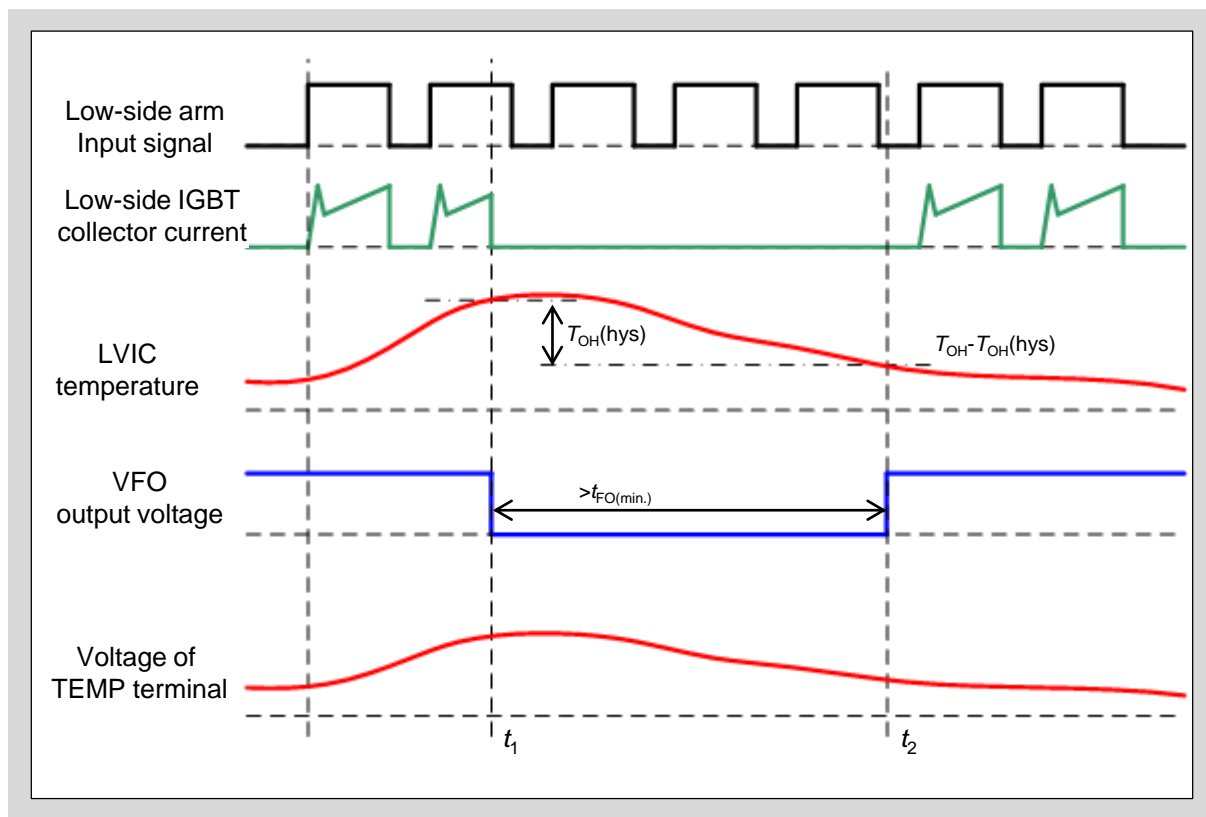

Fig.3-27 Operation sequence of the over heating operation
- As shown in Fig.3-27, the product shuts down all low side IGBTs when the LVIC temperature exceeds T_{OH} . The fault status is reset when the LVIC temperature drops below $T_{OH} - T_{OH(hys)}$.